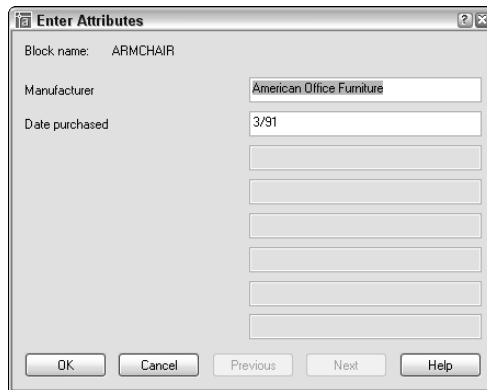

Figure 18-19: The Enter Attributes dialog box.
5. Pick a point in front of the desk (turn off OSNAP if necessary) to insert the armchair and open the Enter Attributes dialog box, as shown in Figure 18-19. The values that were entered when the attributes were defined are displayed, but you can change them.